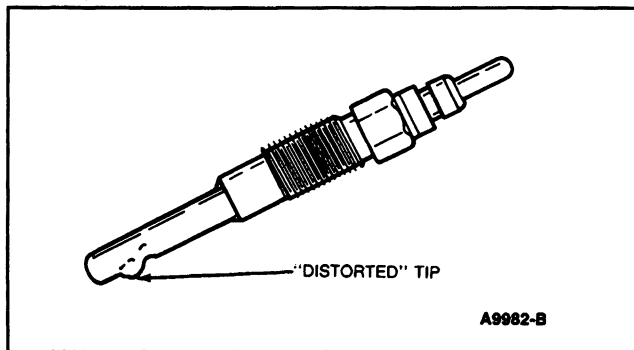

Figure 23: Distorted Tips
- Multiple, distorted glow plugs are usually caused by electrical overheating (Figure 23). A complete evaluation of the glow plug control system should be made.